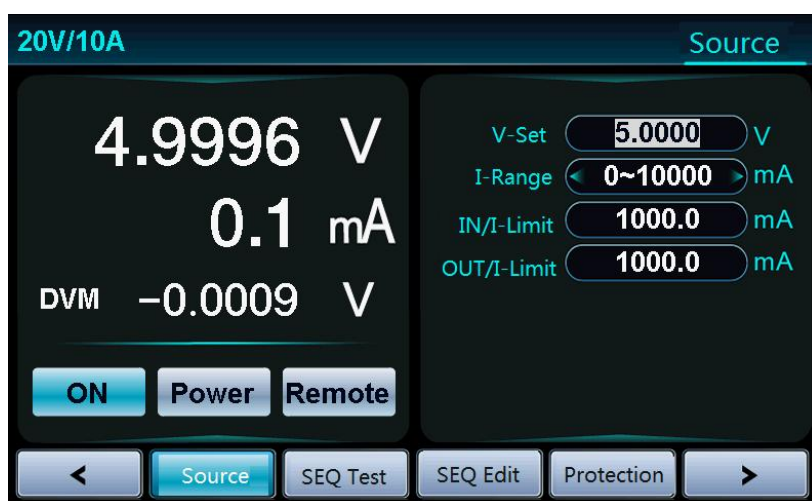

Figure 22 Source Mode
Press the Power Mode key or select Power Mode from the Menu to enter the screen, as shown in Figure 22.
6. Press **On/Off** , the display channel status is ON, as shown in Figure 22.